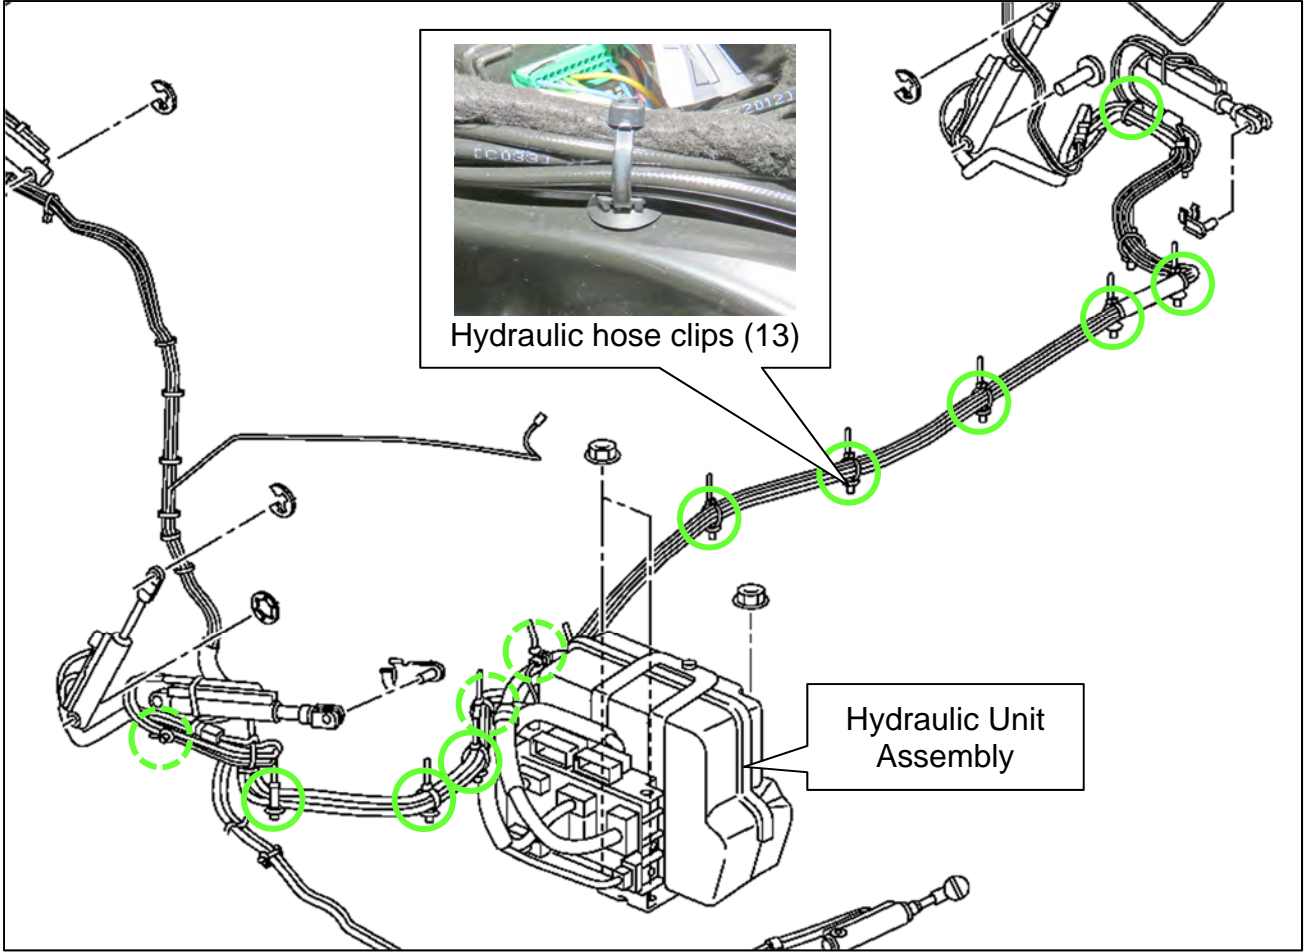

Figure 150
160. Detach the thirteen (13) hydraulic hose clips that connect the Hydraulic Unit Assembly to the soft top hydraulic actuators, that secure the hoses to the vehicle, where shown in Figure 150.